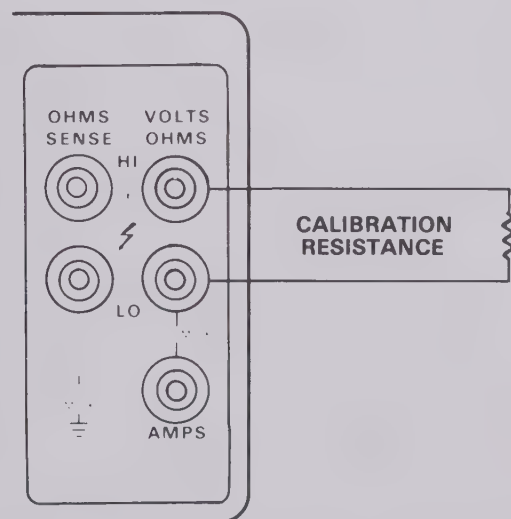

Figure 5-3. Connections for Verification of $20k\Omega$ Through $20M\Omega$ Ranges
6. Connect a $19k\Omega$ calibration resistor to the instrument as shown in Figure 5-3. Note that the 2-terminal configuration may be used for measurements on the $20k\Omega$ and higher ranges. Place the instrument on the $20k\Omega$ range and compare the reading with the limits in Table 5-3.